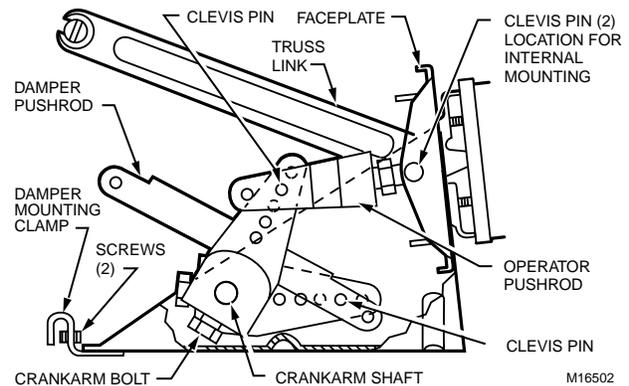

Fig. 29. Converting an Internally Mounted Normally Open Actuator to Externally Mounted.
2. Remove all four clevis pins (Fig. 29).
2. Loosen two damper mounting clamp screws and remove clamp if necessary (Fig. 29).